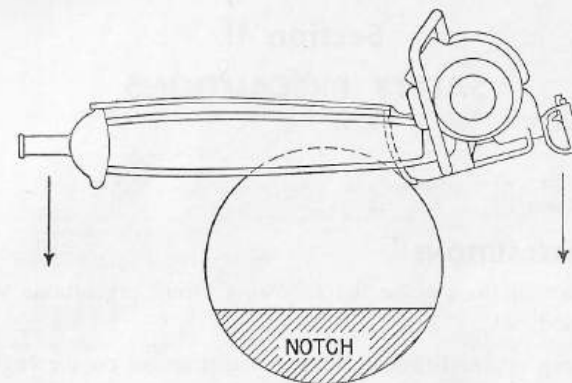

Figure 9—Two-Man Felling Cut
(2) On all cuts, the smooth bumper plate should be placed and held against the wood before the chain is engaged in the wood and the saw fed through the wood by alternate pressure on the helper's end and the power end of the saw.
(3) Much time and needless effort can be saved by determining whether the bucking operation should be performed from the top side or from the under side of the tree. If the position of the tree indicates that top side bucking will result in pinching the guide bar, then bucking from under side should be employed where possible. For undercutting remove the chain guard and cut with the top of the guide bar, using the helper handle as the bumper.
(4) For two-man felling, a notch should be cut in that side of the tree toward which the tree should fall. (See Figure 9.) This notch should be about $\frac{1}{4}$ through the tree.
(5) Because of the hazard involved in felling large trees, safe positions should be selected, previous to the felling cut, to which each man can proceed when the tree starts to fall. It is not always possible to determine the exact direction of the "kick back" which may occur after the tree hits the ground.